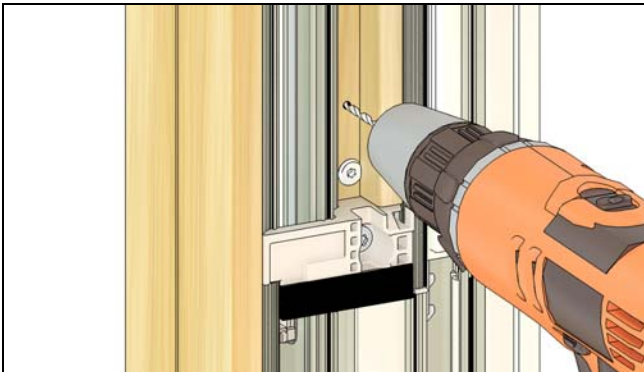

Figure 4
5. If mulling picture to picture unit, skip to Step 7. Pre-drill additional screw hole above jamb adjustment screw with 1/8" drill bit. See Figure 4.